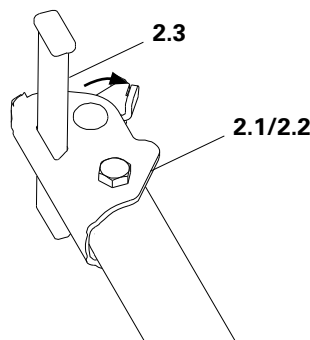

Fig. A2.04
1. Open wedge connection C (silver) (2.1) or D (yellow or black) (2.2). The wedge (2.3) is at the top. (Fig. A2.04)